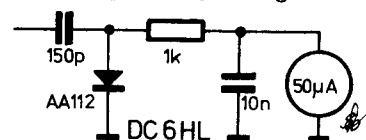

Fig. 26: Alignment aid if no VTVM available
- Connect the RF-probe of a VTVM or the arrangement shown in Figure 26 and feed the operating voltage to Pt 305.
- Align L 308 and C 309 for maximum output voltage at twice the oscillator frequency. Check for equal output at both frequencies, using the circuit shown in Figure 26.